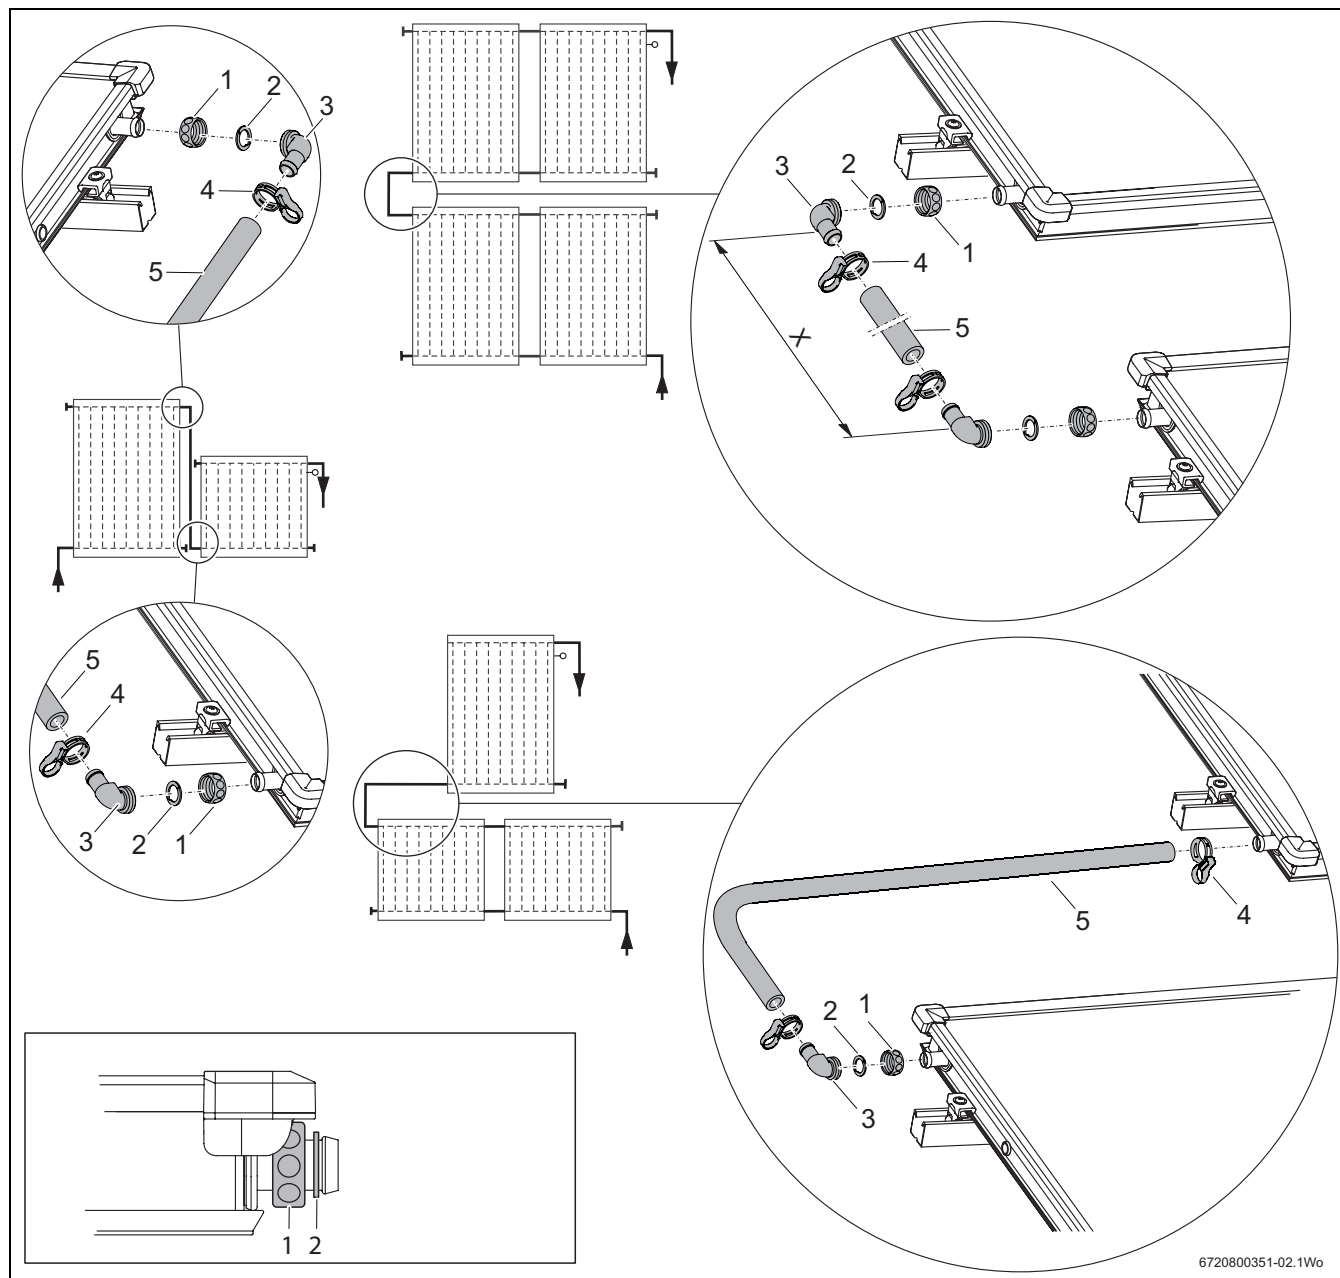

Fig. 57 Connection set
- ▶ Push union nut (Fig. 57, [1]) over the collector connections.
- ▶ Place the clamping disc (Fig. 57, [2]) behind the bead on the collector connection and press together.
- ▶ Press angled nozzle with O-ring (Fig. 57, [3]) onto the connection, align and secure with a union nut.
- ▶ Measure the distance between the angled nozzle (measurement X) once the collectors are installed and trim the hose (Fig. 57, [5]) accordingly.
- ▶ Attach solar hose to the angled nozzles and secure with hose clips (Fig. 57, [4]).